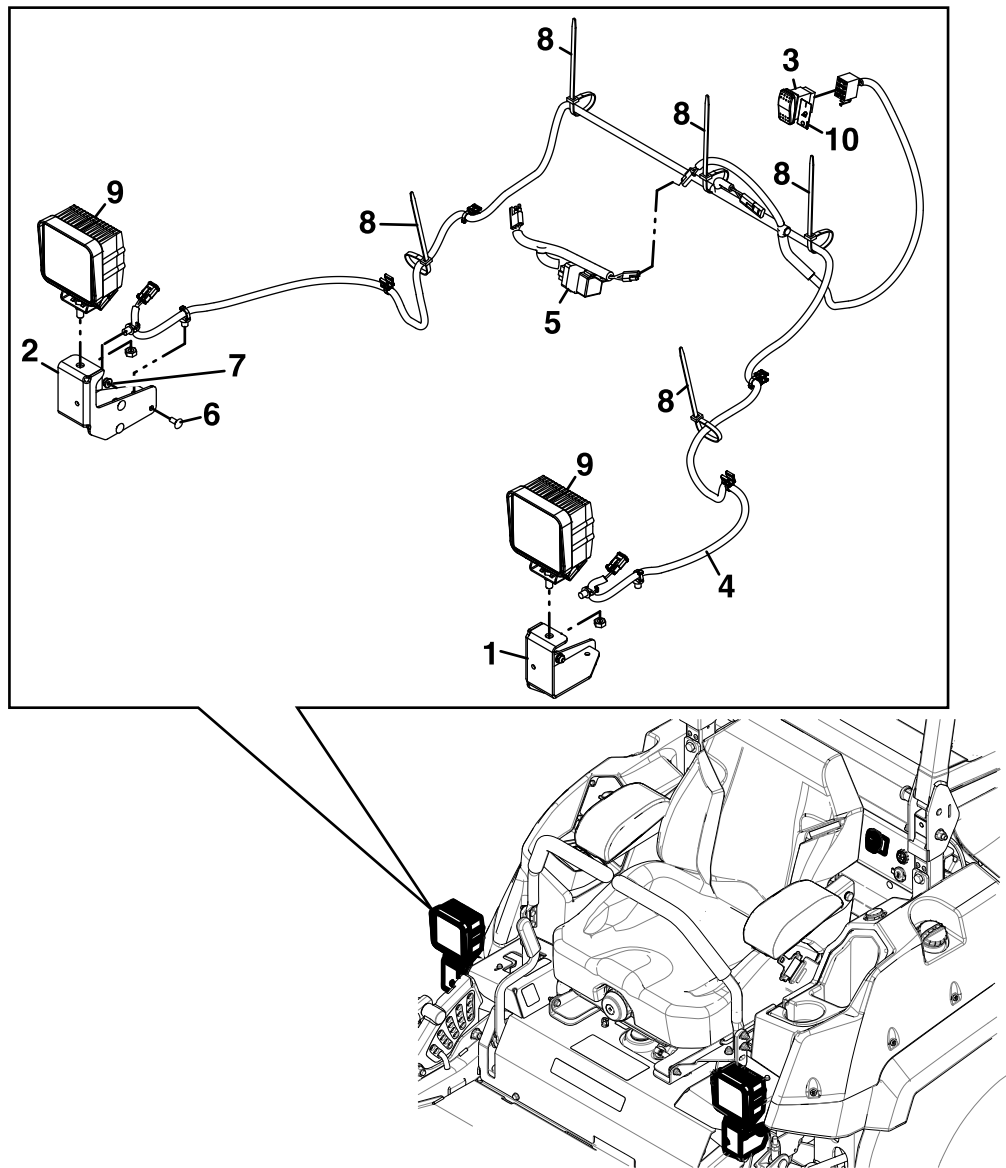

Figure 2
7. Using Figure 2 as a guide, place the light harness behind the seat along side of the main harness in the heat deflector panel.